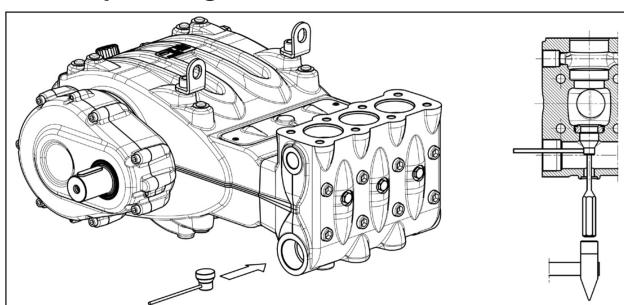

Fig. 102
If removing the suction valve unit proves to be particularly difficult (for example because of incrustations due to prolonged inactivity of the pump), use the extractor tool (code 27516200 (pos. ①, Fig. 102) as indicated.